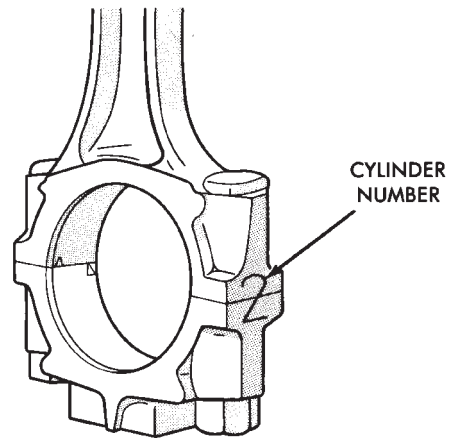

Fig. 3 Mark Matching Parts
(2) Mark connecting rod and cap with cylinder number (Fig. 3).